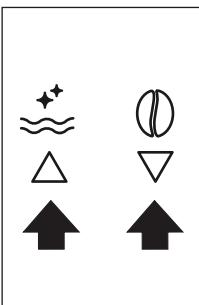
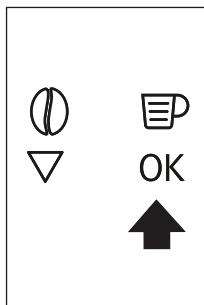

Fig. 9
Fig. 10
- ▶ To set the language, use the icons $\triangle \downarrow$ (B7 and B8) to choose the required language (Fig.9). When the message "PRESS OK TO CHOOSE ENGLISH" is displayed, press the OK icon (B11) (Fig. 10) for 3 seconds until "ENGLISH INSTALLED" is displayed. If you set the wrong language, follow the instructions in the "Setting the language" section. If your language is not available, select one from those displayed. The instructions refer to the English version. Then follow the instructions displayed.
- ▶ Press the OK icon (B9) (Fig. 10) and after a few seconds a little water comes out of the spout.